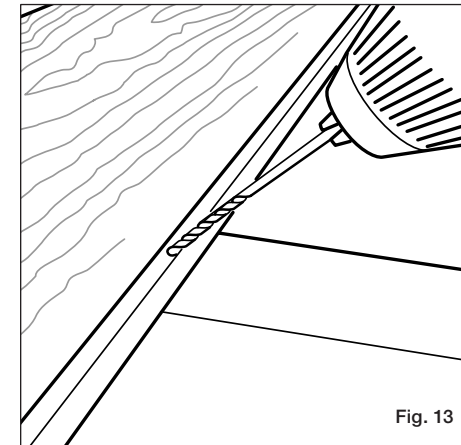
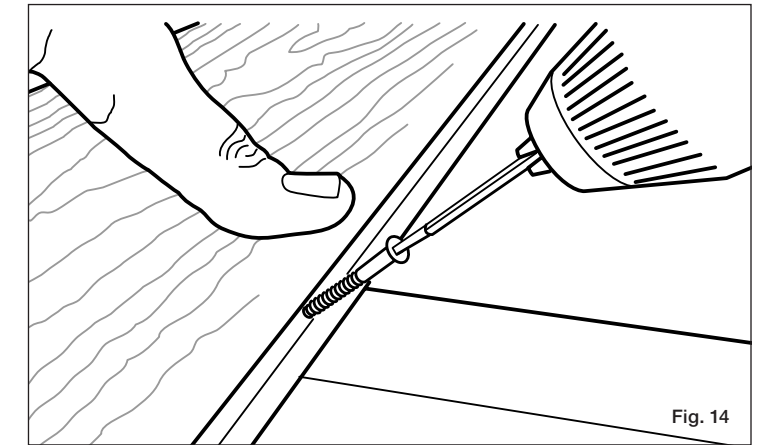

Fig. 13
Fig. 14
**Step 5** To keep the interior boards from moving over time, the boards must be pinned at the center of their length using a #8, 2" (51 mm) stainless steel screw. This holds the deck board in place at the center of each board and allows the decking to expand/contract at the ends. Pre-drill in the groove of the deck board with an 1/8" (3.2 mm) drill bit (Fig. 13). Drive screw into the groove so it's flush with the bottom of the groove (Fig. 14). This will allow you to properly fit a Stowaway hidden fastener into the groove.